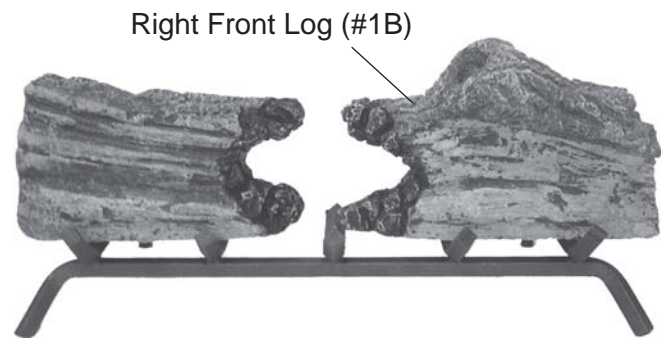

Figure 103 - Placing Right Front Log (#1B) on grate
3. Place Right Front Log #1B on front right of the grate. See Figure 103.